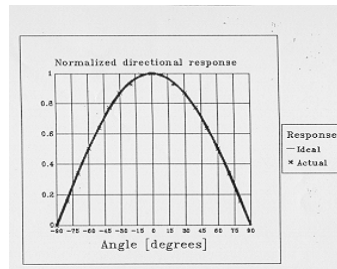

Fig. 3
**Angular response** : As indicated in Fig. 3 (nominal values).